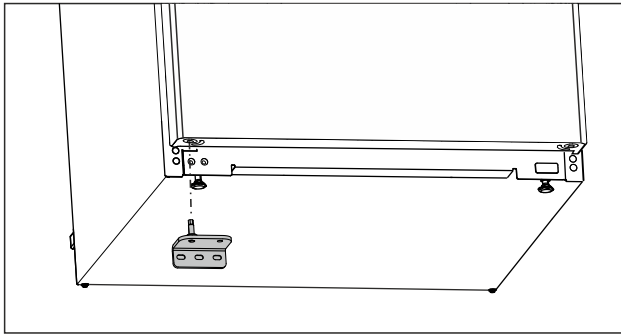

Fig. 22
- Insert the lower swap bearing block on the opposite side. (see Fig. 22)